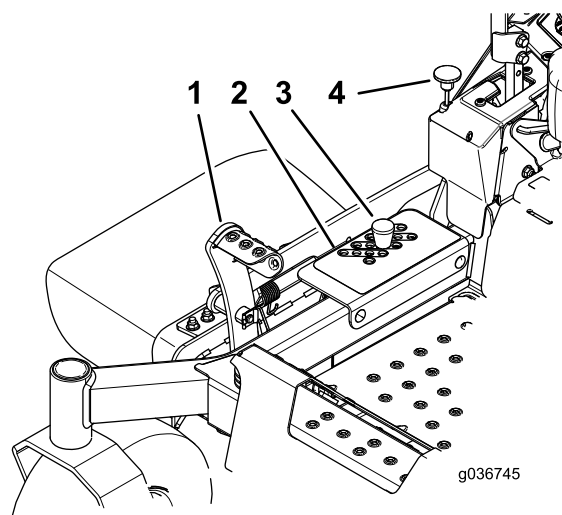

Figure 34
2. Push on the deck-lift pedal with your foot and raise the mower deck to the TRANSPORT position (also the 127 mm or 5 inch cutting-height position) as shown in Figure 34.
3. Remove the pin from the height-of-cut bracket (Figure 34).
4. Select a hole in the height-of-cut bracket corresponding to the height-of-cut desired, and insert the pin (Figure 34).